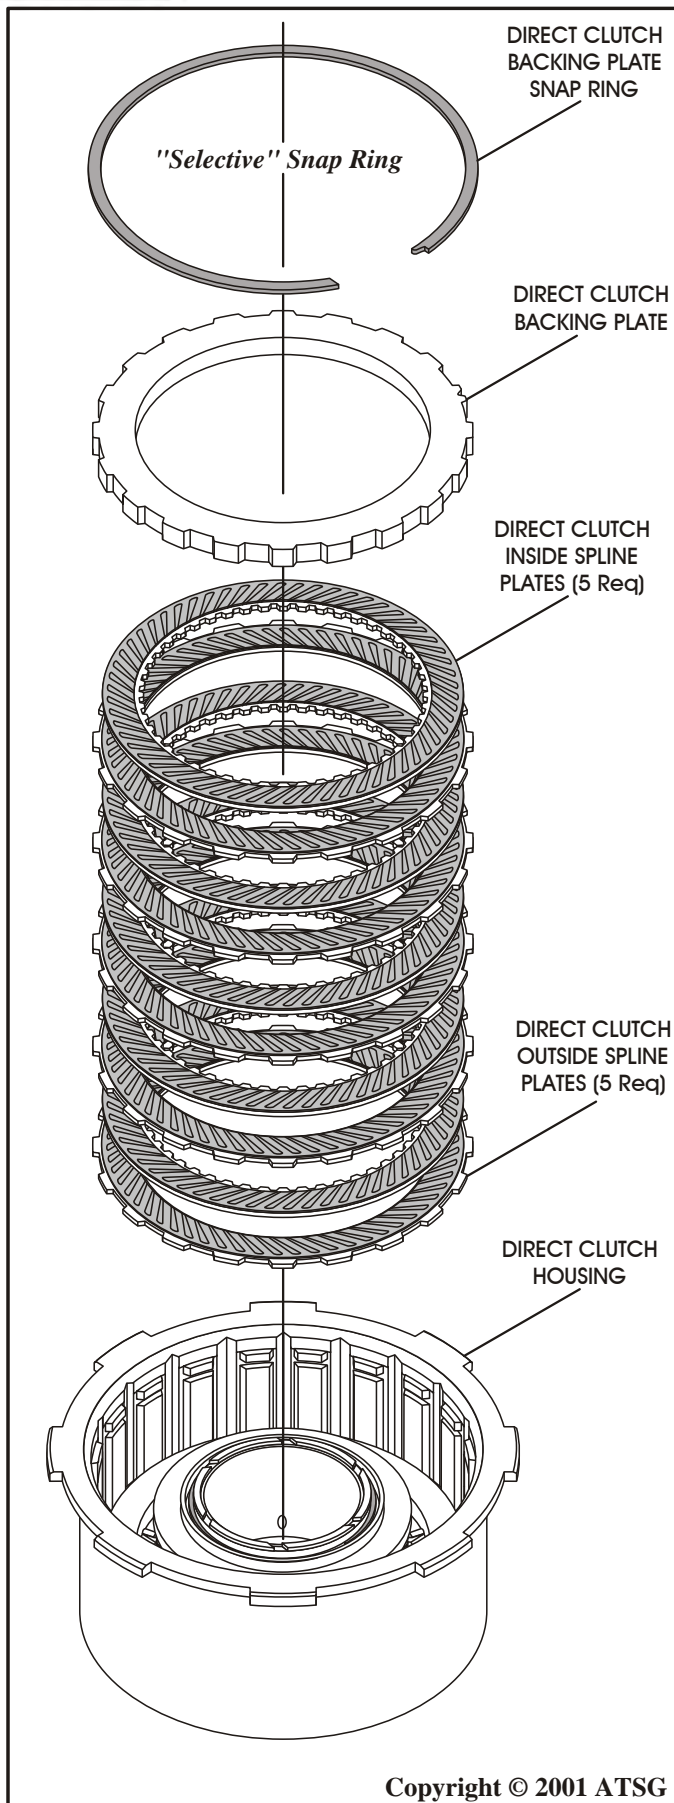

Figure 79
14. Install the direct clutches beginning with an outside spline plate and alternating with inside spline plates, until you have installed 5 of each, as shown in Figure 79.
15. Install the direct clutch backing plate, as shown in Figure 79.
16. Install the direct clutch backing plate snap ring, as shown in Figure 79 and ensure that it is fully seated in the groove (See Figure 79).